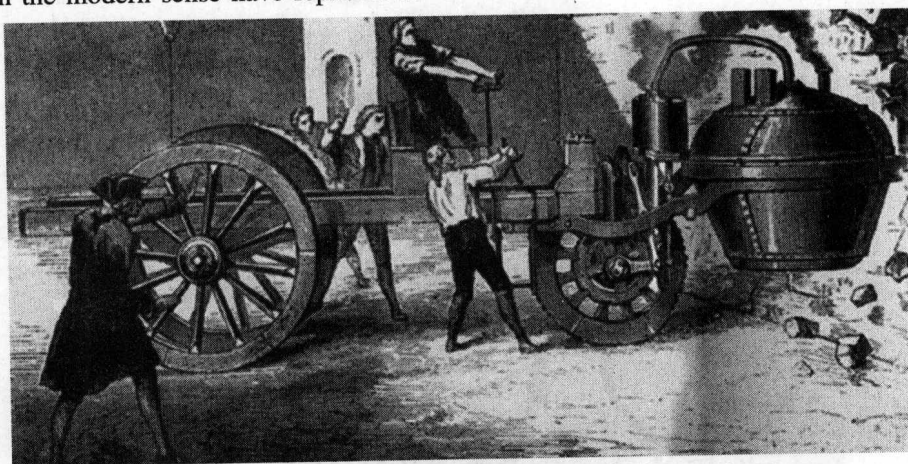

Fig. 1-1 Cugnot's Vehicle
The origin of the automobile can be traced back to the 3-wheel carriage (Fig. 1-1) developed by Nicolas Cugnot in France in 1769. The carriage is powered by a steam engine. This is the first self-propelled highway vehicle in the history. But because it has no improvement on the horse, the cars in the modern sense have replaced it.
1. The origin of the automobile can be traced back to the 3-wheel carriage (Fig. 1-1) developed by Nicolas Cugnot in France in 1769. The carriage is powered by a steam engine. This is the first self-propelled highway vehicle in the history.